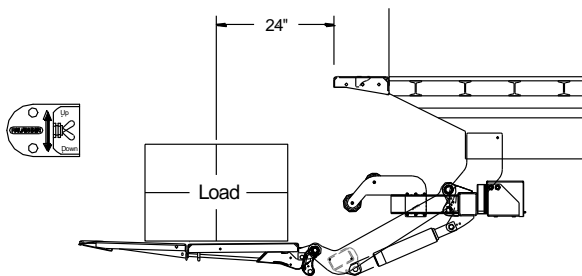
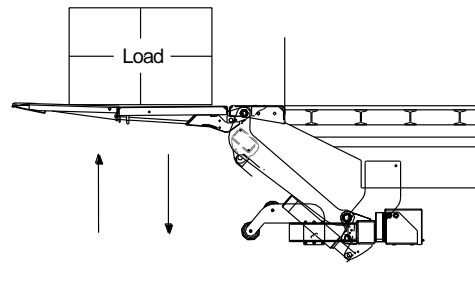

Fig.11
Fig.12
- Center the load on the platform 24" away from the rear of the bed extension, **Fig.11**. Use the toggle switch to lift the platform/load up and down, **Fig.12**.